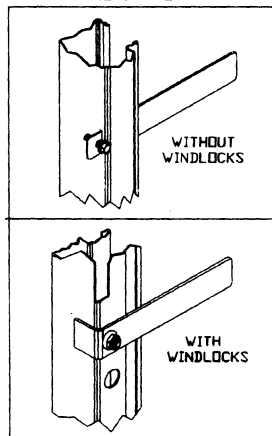

FIGURE 7
- A. For doors without windlocks, slide head stop from inside of each guide. Secure with 1/4-20 x 3/4" thread cutting type F hex screw. See figure 7.
- B. For doors with windlocks, place head stop over outside of each guide. Secure with 1/4-20 x 1/2" carriage bolt and 1/4-20 serrated flange nut. Install carriage bolt from inside of guide. See figure 7.
STEP 8: MINI STOP CLIPS, HANDLE(S) AND PULL ROPE